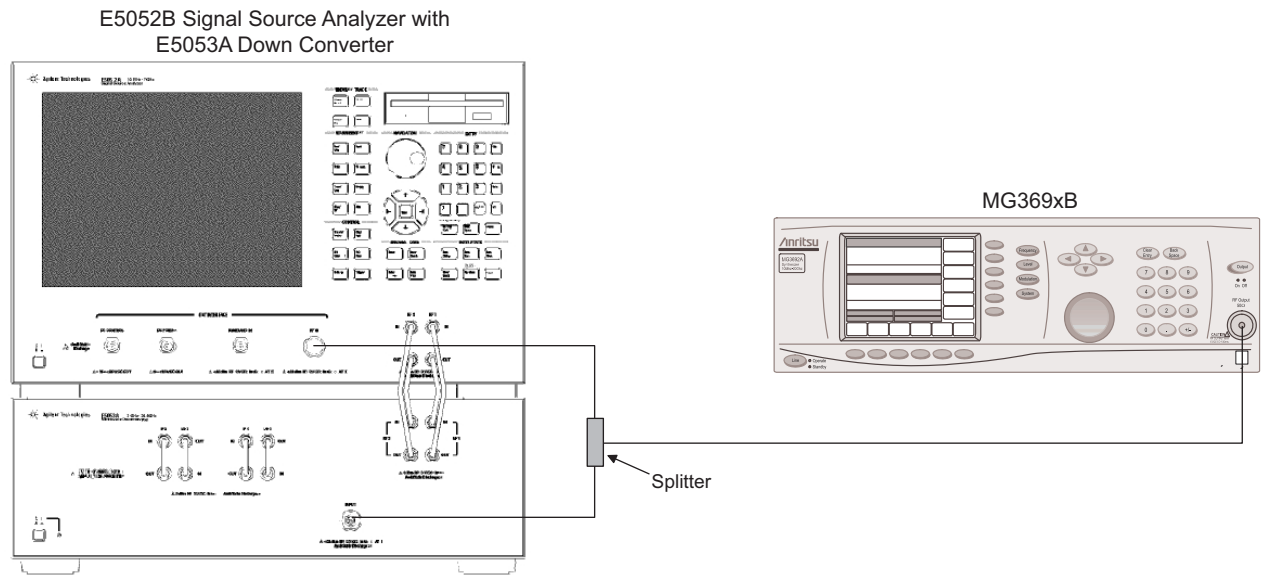

Figure 3-3. Equipment Setup for Single Sideband Phase Noise Test with E5052B and E5053A
- e. Connect the MG369xB as shown in Figure 3-3.